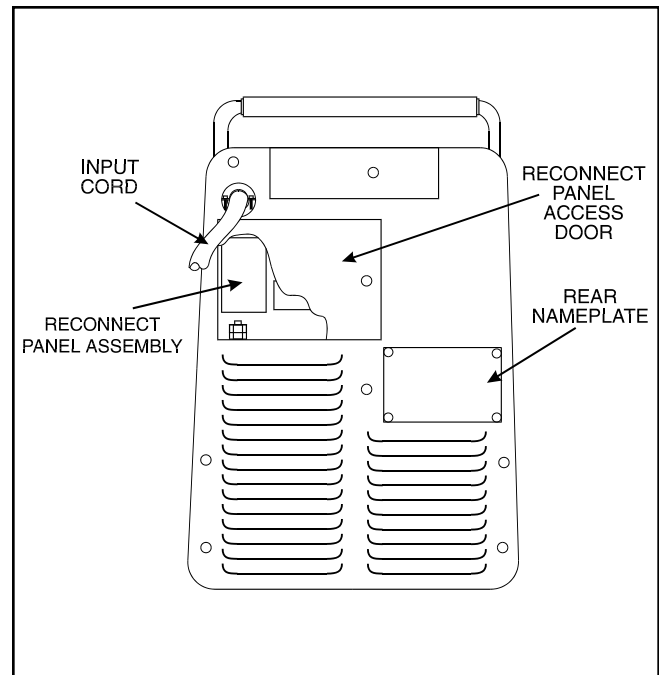

FIGURE A.1 - Case Back Assembly: Input Power Cable Entry Connections.
3. Be sure the voltage, phase, and frequency of the input power is as specified on the machine rating plate. See Figure A.1 for the location of the machine's input cord entry, Reconnect Access Door, Reconnect Panel, and Rear Nameplate.